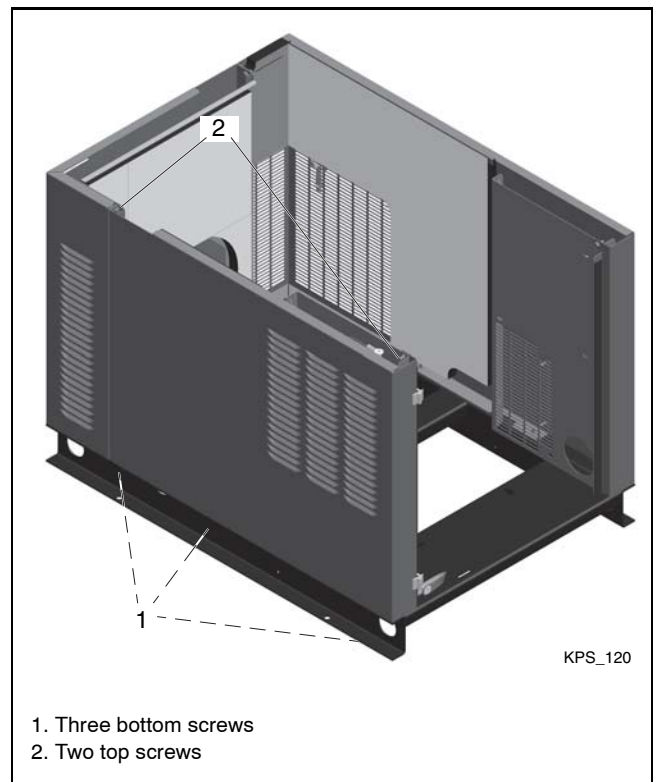

Figure 6-2 Right-Side Panel
- a. Loosen the bottom screws. See Figure 6-2.